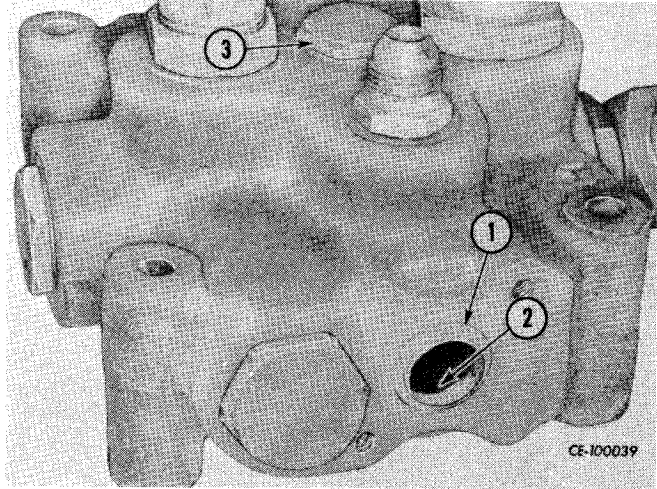

Figure 11-18
The disassembly and assembly procedures of the steering, dozer and winch control valves are similar except as indicated in Fig. 11-18, involving the check valve poppet used only in the dozer and winch control valves.
Remove wiper (1, Fig. 11-18) and "O" ring (2) from bore in end of valve body.
Install check valve poppet and check valve spring into top of the winch or dozer valve. Install new "O" ring on plug (3, Fig. 11-18). Install and tighten plug (3).